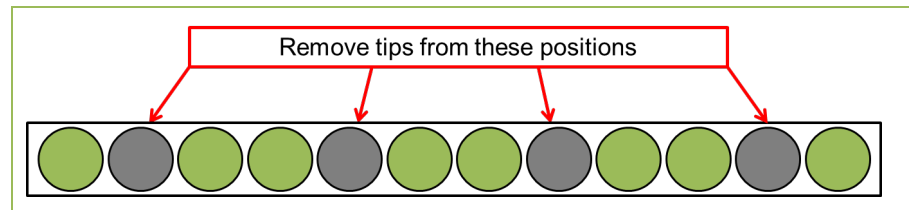

Figure 2: Tip Loading Strategy on a 12-channel Pipettor
4. Before adding medium, load a 12-channel pipettor with sterile tips and remove tips from the positions identified in Figure 2.
2. Load a 12-channel pipettor with sterile tips as identified in Figure 2 and remove 50% of the spent medium (150 μl) from each well of the 48-well MEA plate, 3 rows at a time.